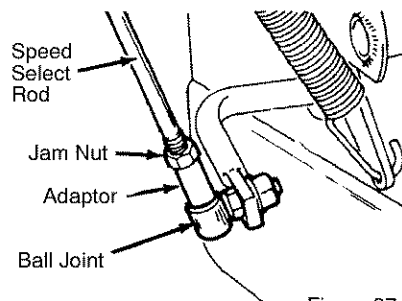

Figure 37
2. Loosen hex **jam nut** on **speed select rod**. Remove **ball joint** from **shifter bracket** (see Figure 37).
4. Turn the **adaptor** until the **ball joint** is aligned with the mounting hole in the **shifter rod** (see Figure 37).